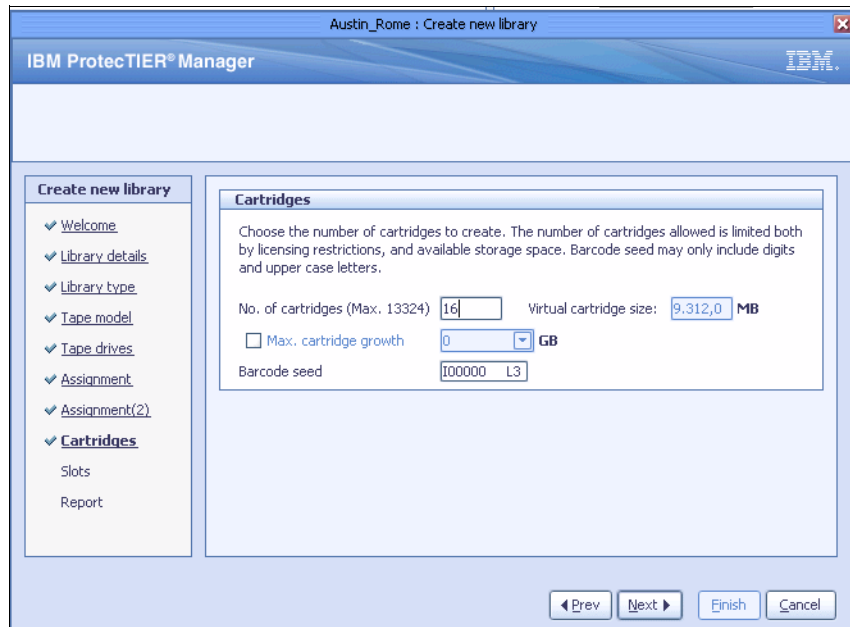

Figure 6-34 Cartridge define/create menu
6. By assigning the drive to a ProtecTIER port connected to the IBM i adapter, IBM i sees that the drive and the tape library providing the system value autoconfig is set to yes. We now define the number of virtual cartridges and their volume serial numbers or barcodes. We define 16 cartridges with volsers I00000–I00015, as shown in Figure 6-34.